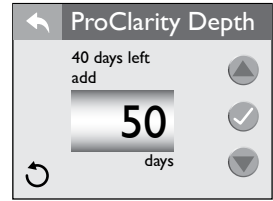

Figure 12.6f
1. From the “Water Care” Menu you can to set the “ProClarity Depth” timer, Figure 12.6f.